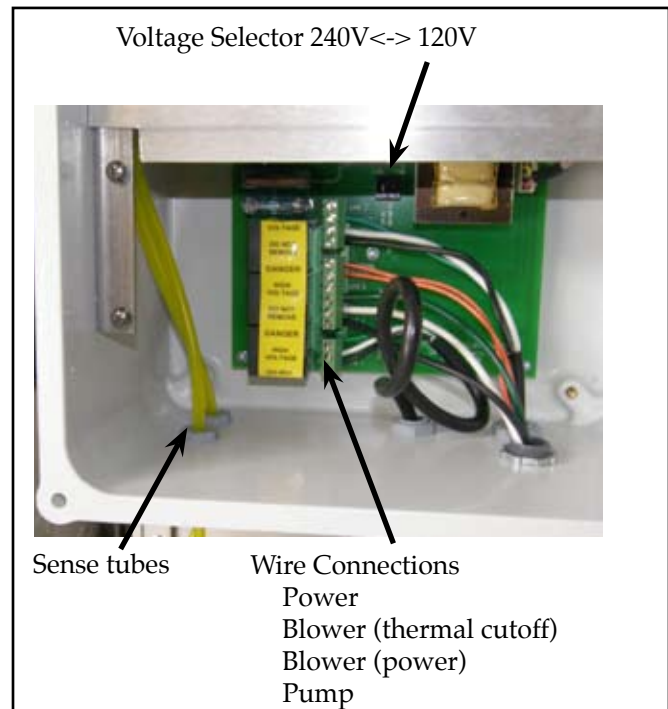

Fig 2. Atomization Control Module wiring entry.
8. Confirm that the voltage selector switch is set to the proper voltage (Fig 2).
- 7a. **Blowers up to 1.5 hp, 120/240V, 1Ø** are powered directly from the ACM (or BRM). Open wiring box, attach wiring whip, and connect power and thermal cutoff leads (orange wires) as indicated on the circuit board of the ACM or BRM (Fig 2).